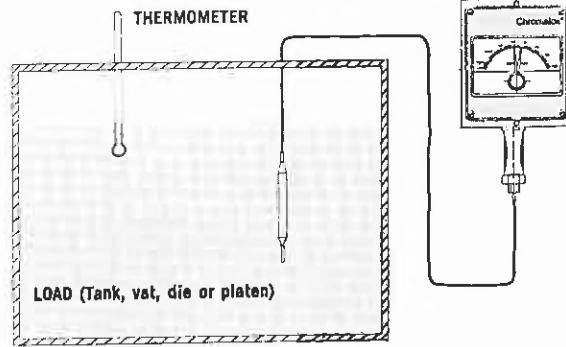

Figure 16
2. With the aid of an accurate thermometer or other temperature measuring device, recalibration may be performed within the process as in Figure 16.